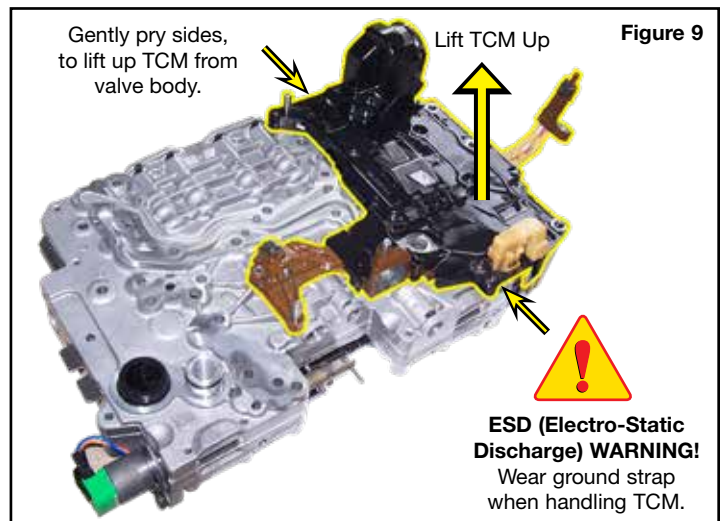

Figure 9
- Gently pry TCM lifting up from valve body until removed (Figures 9 & 10).